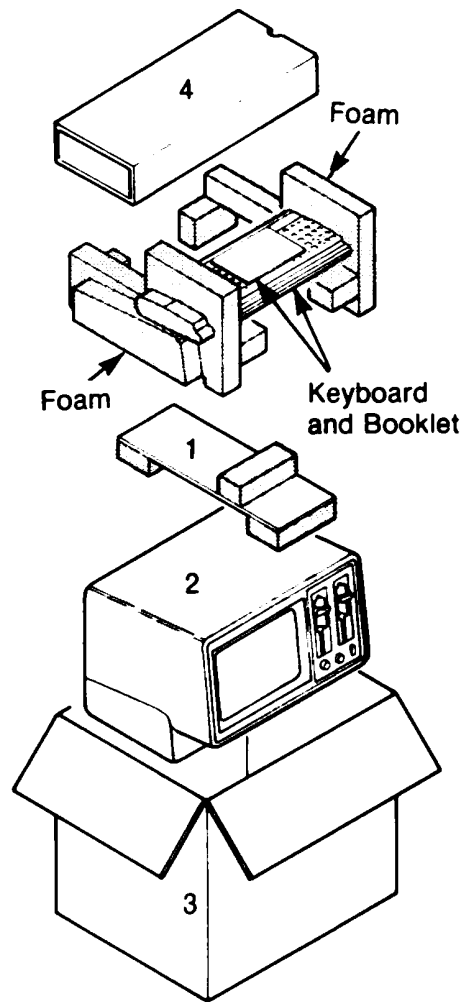

Figure 2-1 Unpacking
1. Remove components and packing as shown in Figure 2-1.
- Open the main carton (3).
- Lift out the long box labeled "Documentation and Accessories" (4).
- Lift out the cardboard strip with the foam blocks attached (1).
- Remove the main unit (2) from the carton and set it on a desk or table. You may tip the carton so that the screen faces up and slide the unit out.
- Save the carton with all packaging material inside (3), including the cardboard in case you need to move the computer later.
- Open the long box labeled "Documentation and Accessories" (4) and remove the power cord and the three manuals.